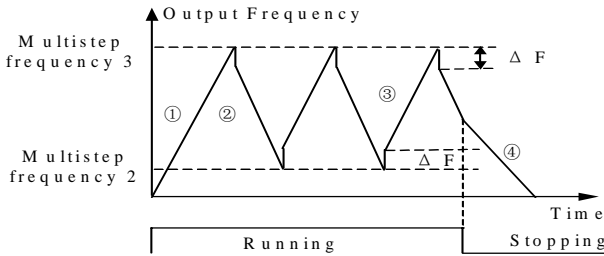

Fig. 6-25 Wobble operation
Refer to Fig. 6-25, where ΔF is multistep frequency 1, ① accel time 2, ② decel time 3, ③ accel time 3, ④ decel time 2.